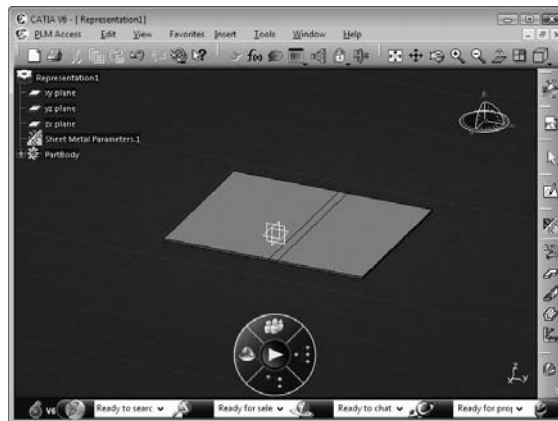

FIGURE 6.66
4. *Unfold* the bend by selecting **Insert > Bending > Unfolding** from the menu bar, as shown in **Figure 6.66**: